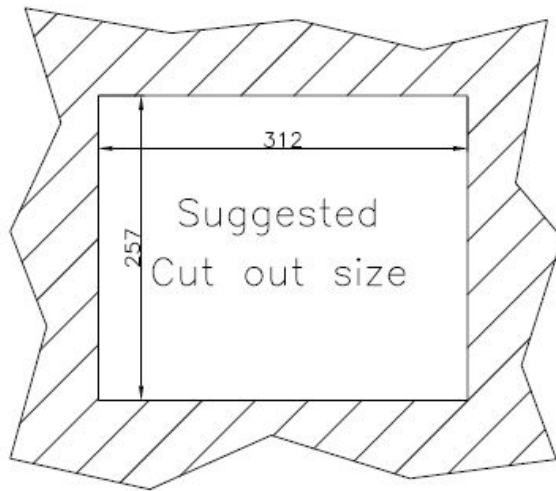

Figure 4-17: Suggested Panel Cut Out Size for UPC-12A/GM45 (Unit: mm)
- Step 2:** Cut out a section from the panel that corresponds to the dimensions of the flat panel PC chassis. The panel section that is cut out must be smaller than the size of the aluminum frame that surrounds the TFT LCD panel but just large enough for the chassis to fit through. Refer to **Figure 4-17** for the suggested cut out size.